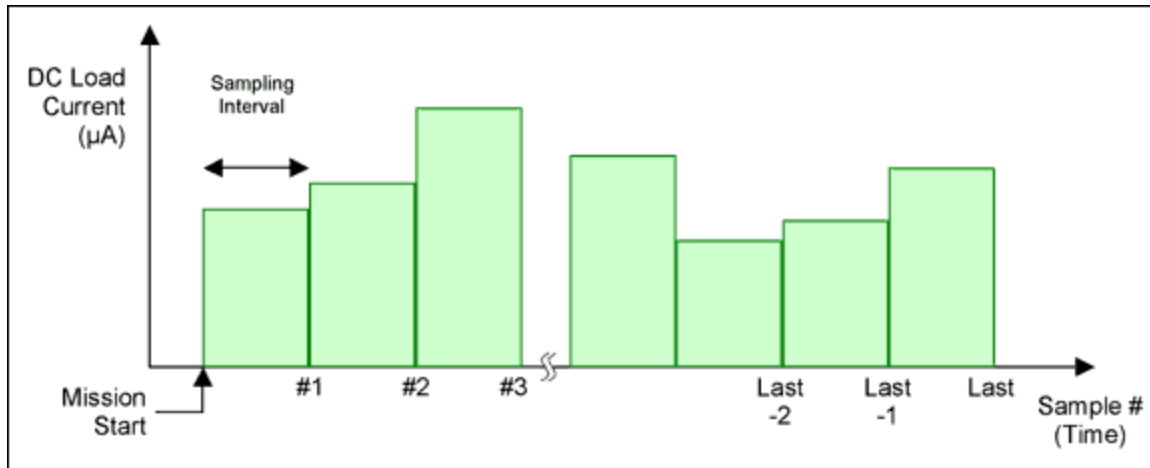

Figure 2. Estimated DC load during sampling interval.
- Look up the DC load current at that temperature and multiply it with the duration of the sampling interval (**Figure 2**). This accounts for the energy consumed by the RTC and through self-discharge (DC load).
As can be seen in Figure 2 above, the DC load is assumed to be constant during the sampling interval. Mathematically this method is equivalent to *Estimating Integrals/Areas Using Right Rectangles (heights determined by the right endpoints of each subinterval)*. There are other integration methods, such as using the average of two samples (midpoint), trapezoids, or Simpson's rule, which deliver numerically more accurate results¹. The positive and negative errors incurred by the rectangles approach average to zero, if the temperature cycles around a thermostatic set point. Therefore, this simple approach is reasonable for this application.